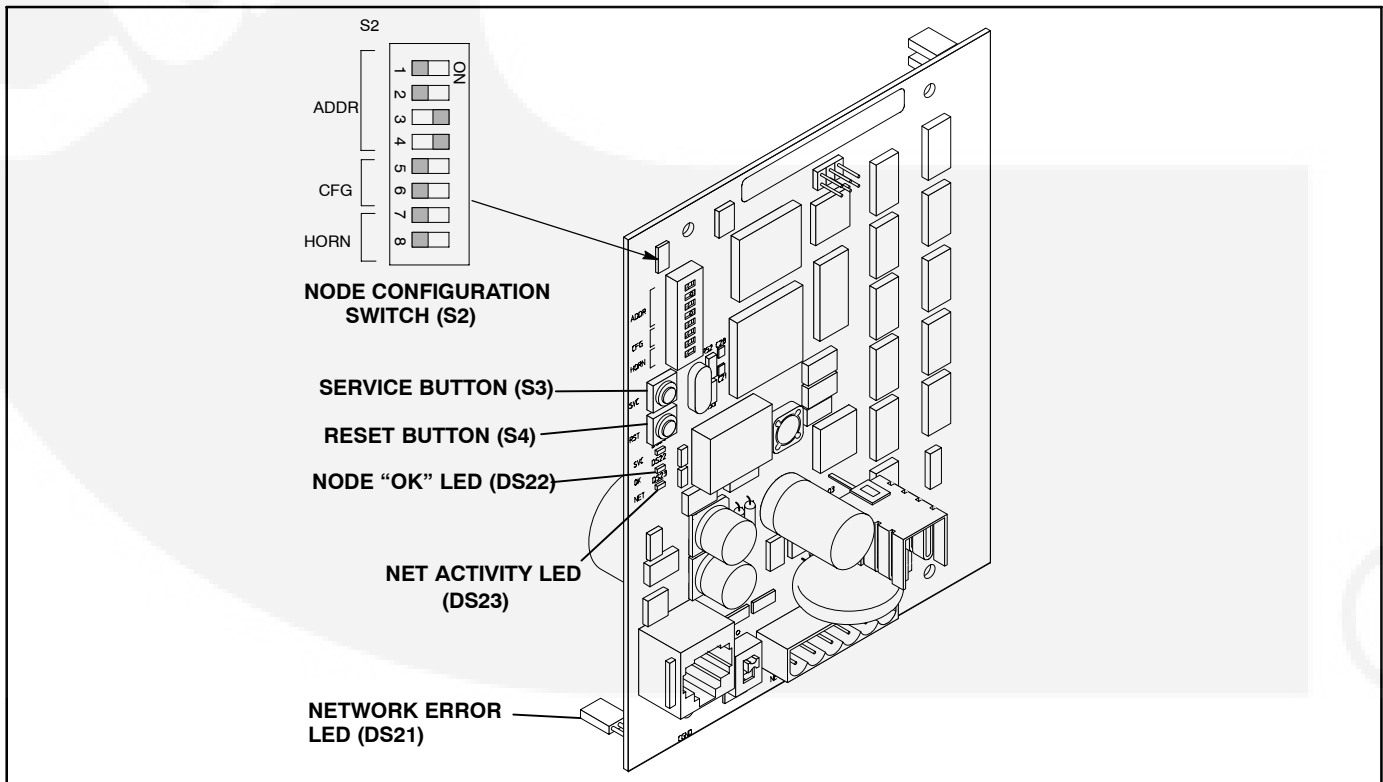

FIGURE 6. ANNUNCIATOR SWITCHES AND LEDs (EXAMPLE OF NODE ADDRESS = 3)
Example: To set up a *Node Address* of 3, set switch node configuration switch S2 as follows: S2-1 OFF, S2-2 OFF, S2-3 ON and S2-4 ON (binary setting 0011=0+0+2+1=3 decimal). See Figure 6 and Table 2.
Be sure to assign each node in the network a unique address. The *Node Address* can be verified by counting the number of pulses of the “OK” LED (DS22). See Figure 6.
Switch S2-7 enables the horn (see Figure 6). If enabled, switch S2-8 is used to control the horn volume. The horn settings take place immediately and the node does not have to be reset.
7. Press and hold the Service button (S3) (see Figure 6) until the *Network Status* lamp (see Figure 1) begins flashing (amber).
To verify the genset has installed itself properly and is bound to the ATS, disconnect the J1 data cable from the engine interface board. The “Network Error” LED (DS21) (see Figure 6) should turn on (red) within 10 seconds. This indicates communications have failed and that the device was properly bound.